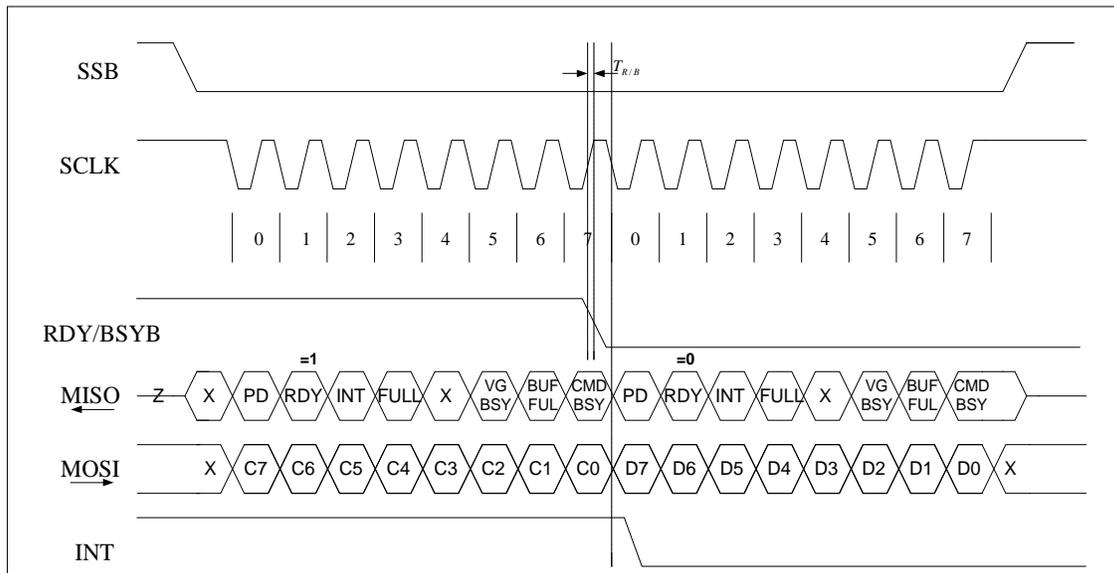

Figure 8-3 SPI Transaction Ignoring RDY/BSYB
For commands (i.e., DIG\_READ, SPI\_PCM\_READ) that read data from the ISD2360 device, MISO is used to read the data; therefore, the host must monitor the status via the RDY/BSYB pin and take the necessary actions. The INT pin will go low to indicate (1) data overrun/overflow when sending data to the ISD2360; or (2) invalid data from ISD2360. See Figure 8-3 for the timing diagram.